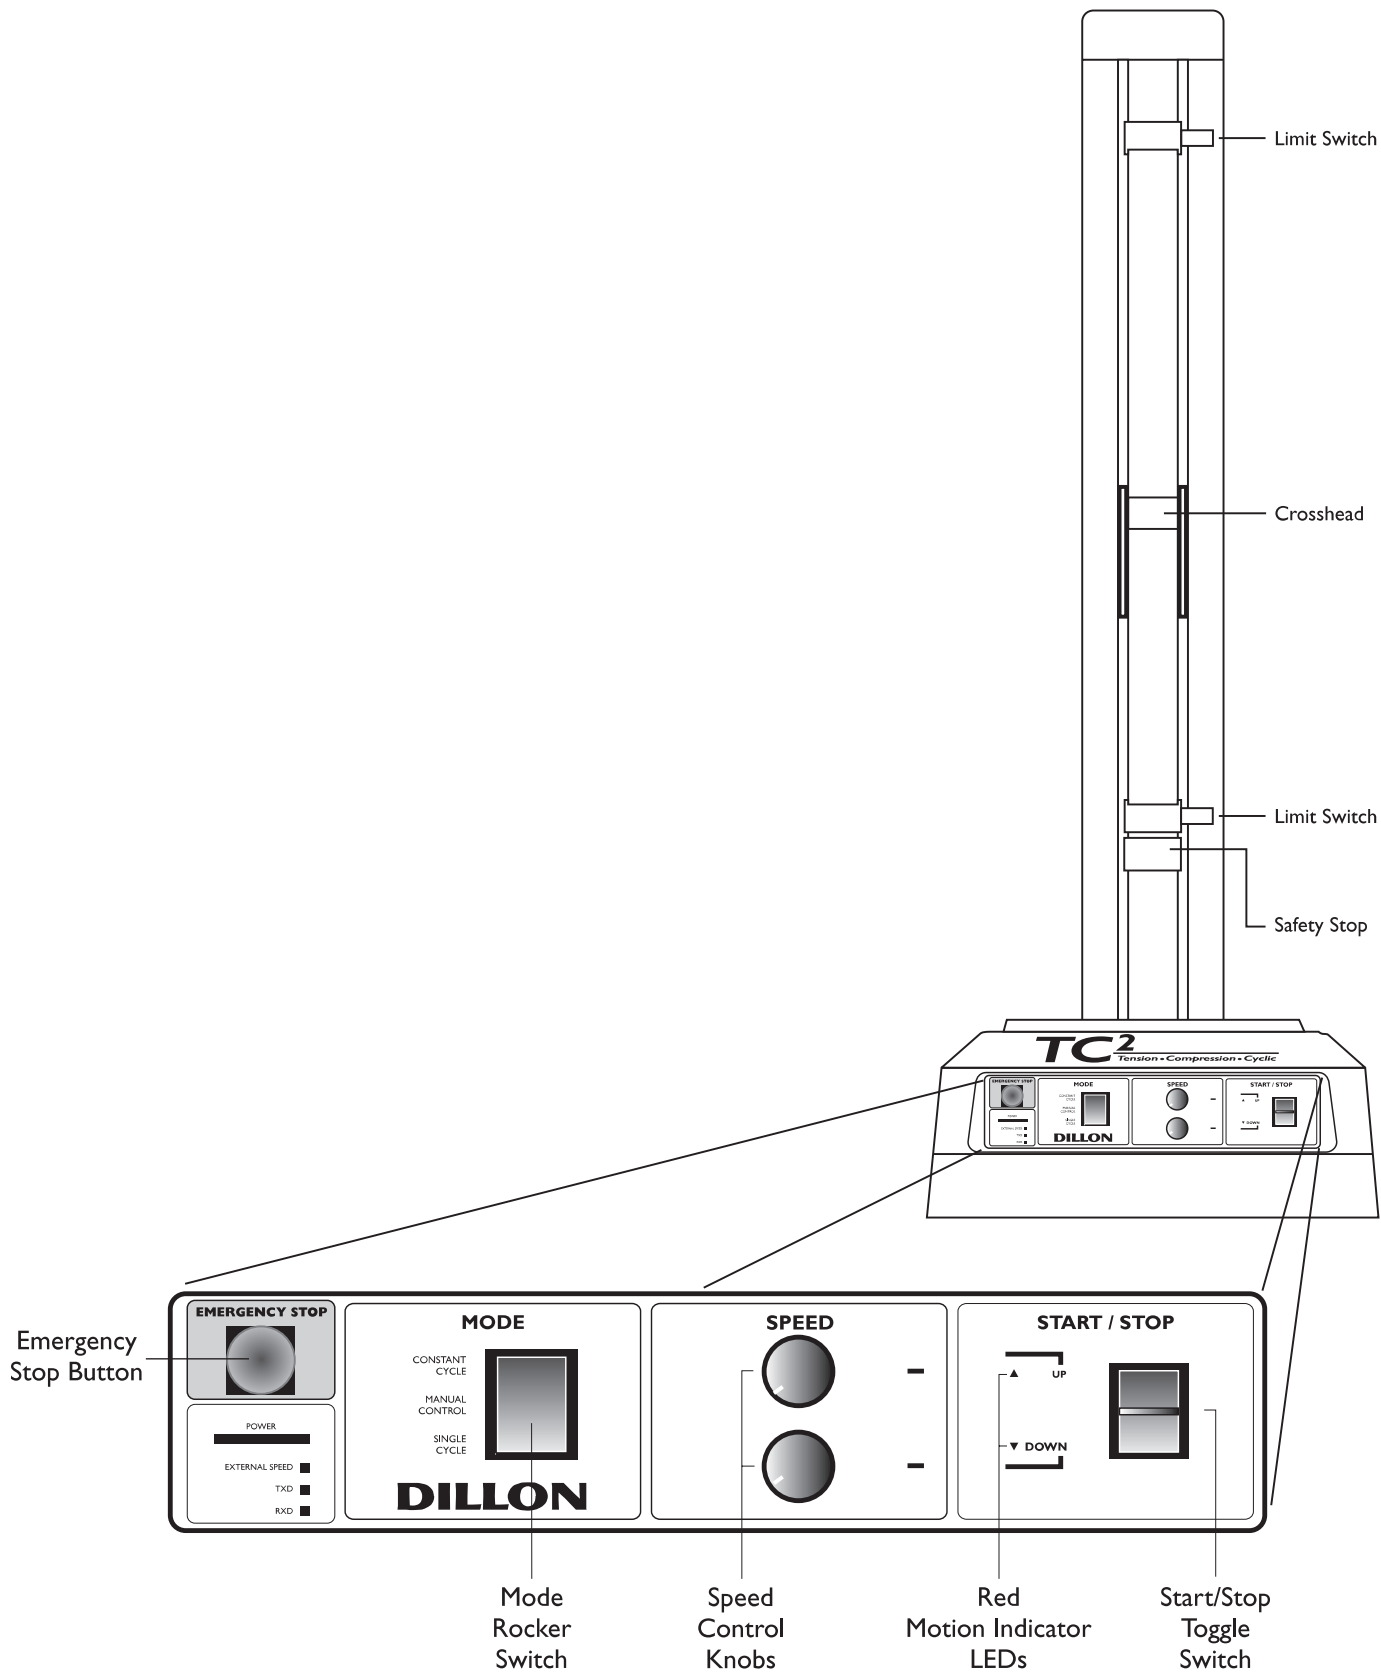

Figure 1
The TC² has variable speed control in both upward and downward directions. Speeds can be independently set and controlled by the speed control knobs on the front panel, shown in Figure 1. The white pointer on the speed control knobs gives an indication of the speed setting. Some test standards place particular requirements upon speed accuracy/reproducibility, which may exceed the normal performance of the TC². Under such circumstances calibration of each individual test stand may be appropriate.
1. Set the limit switches (see Figure 1) by turning each red plastic thumbscrew counterclockwise and moving them approximately two inches either side of the moving crosshead and retighten. Do not confuse these limit switches with the (preset) safety stop. See Figure 1.